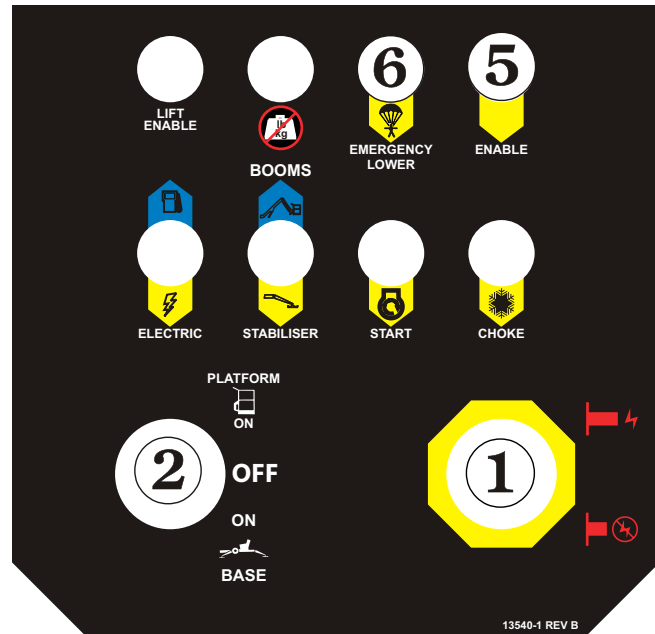

Figure 11.4 - Ground Controls, Machines with Hydraulic Controls
1. The **Emergency Stop** switch ① must be (ON) (see Figure 11.4).
2. The **Platform/Ground Selector** switch ② (see Figure 11.4) must be set to GROUND.